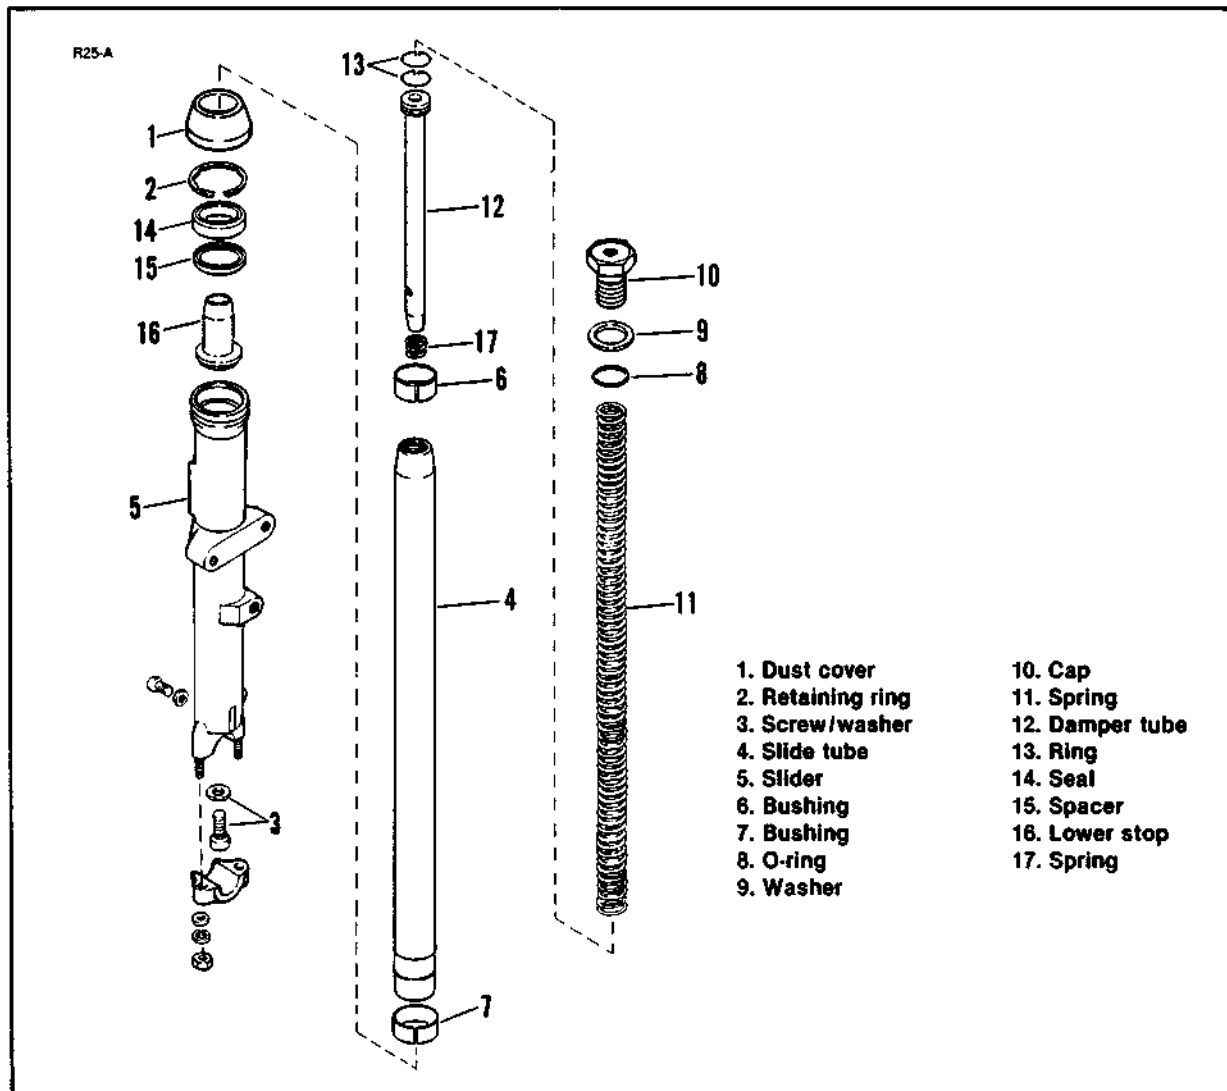

Figure 6. Front Fork
1. See Figure 6. Slide up dust cover (1), remove seal snap ring (2) and remove damper tube screw and washer (3).
2. Separate fork tube (4) and slider (5) by pulling them apart.